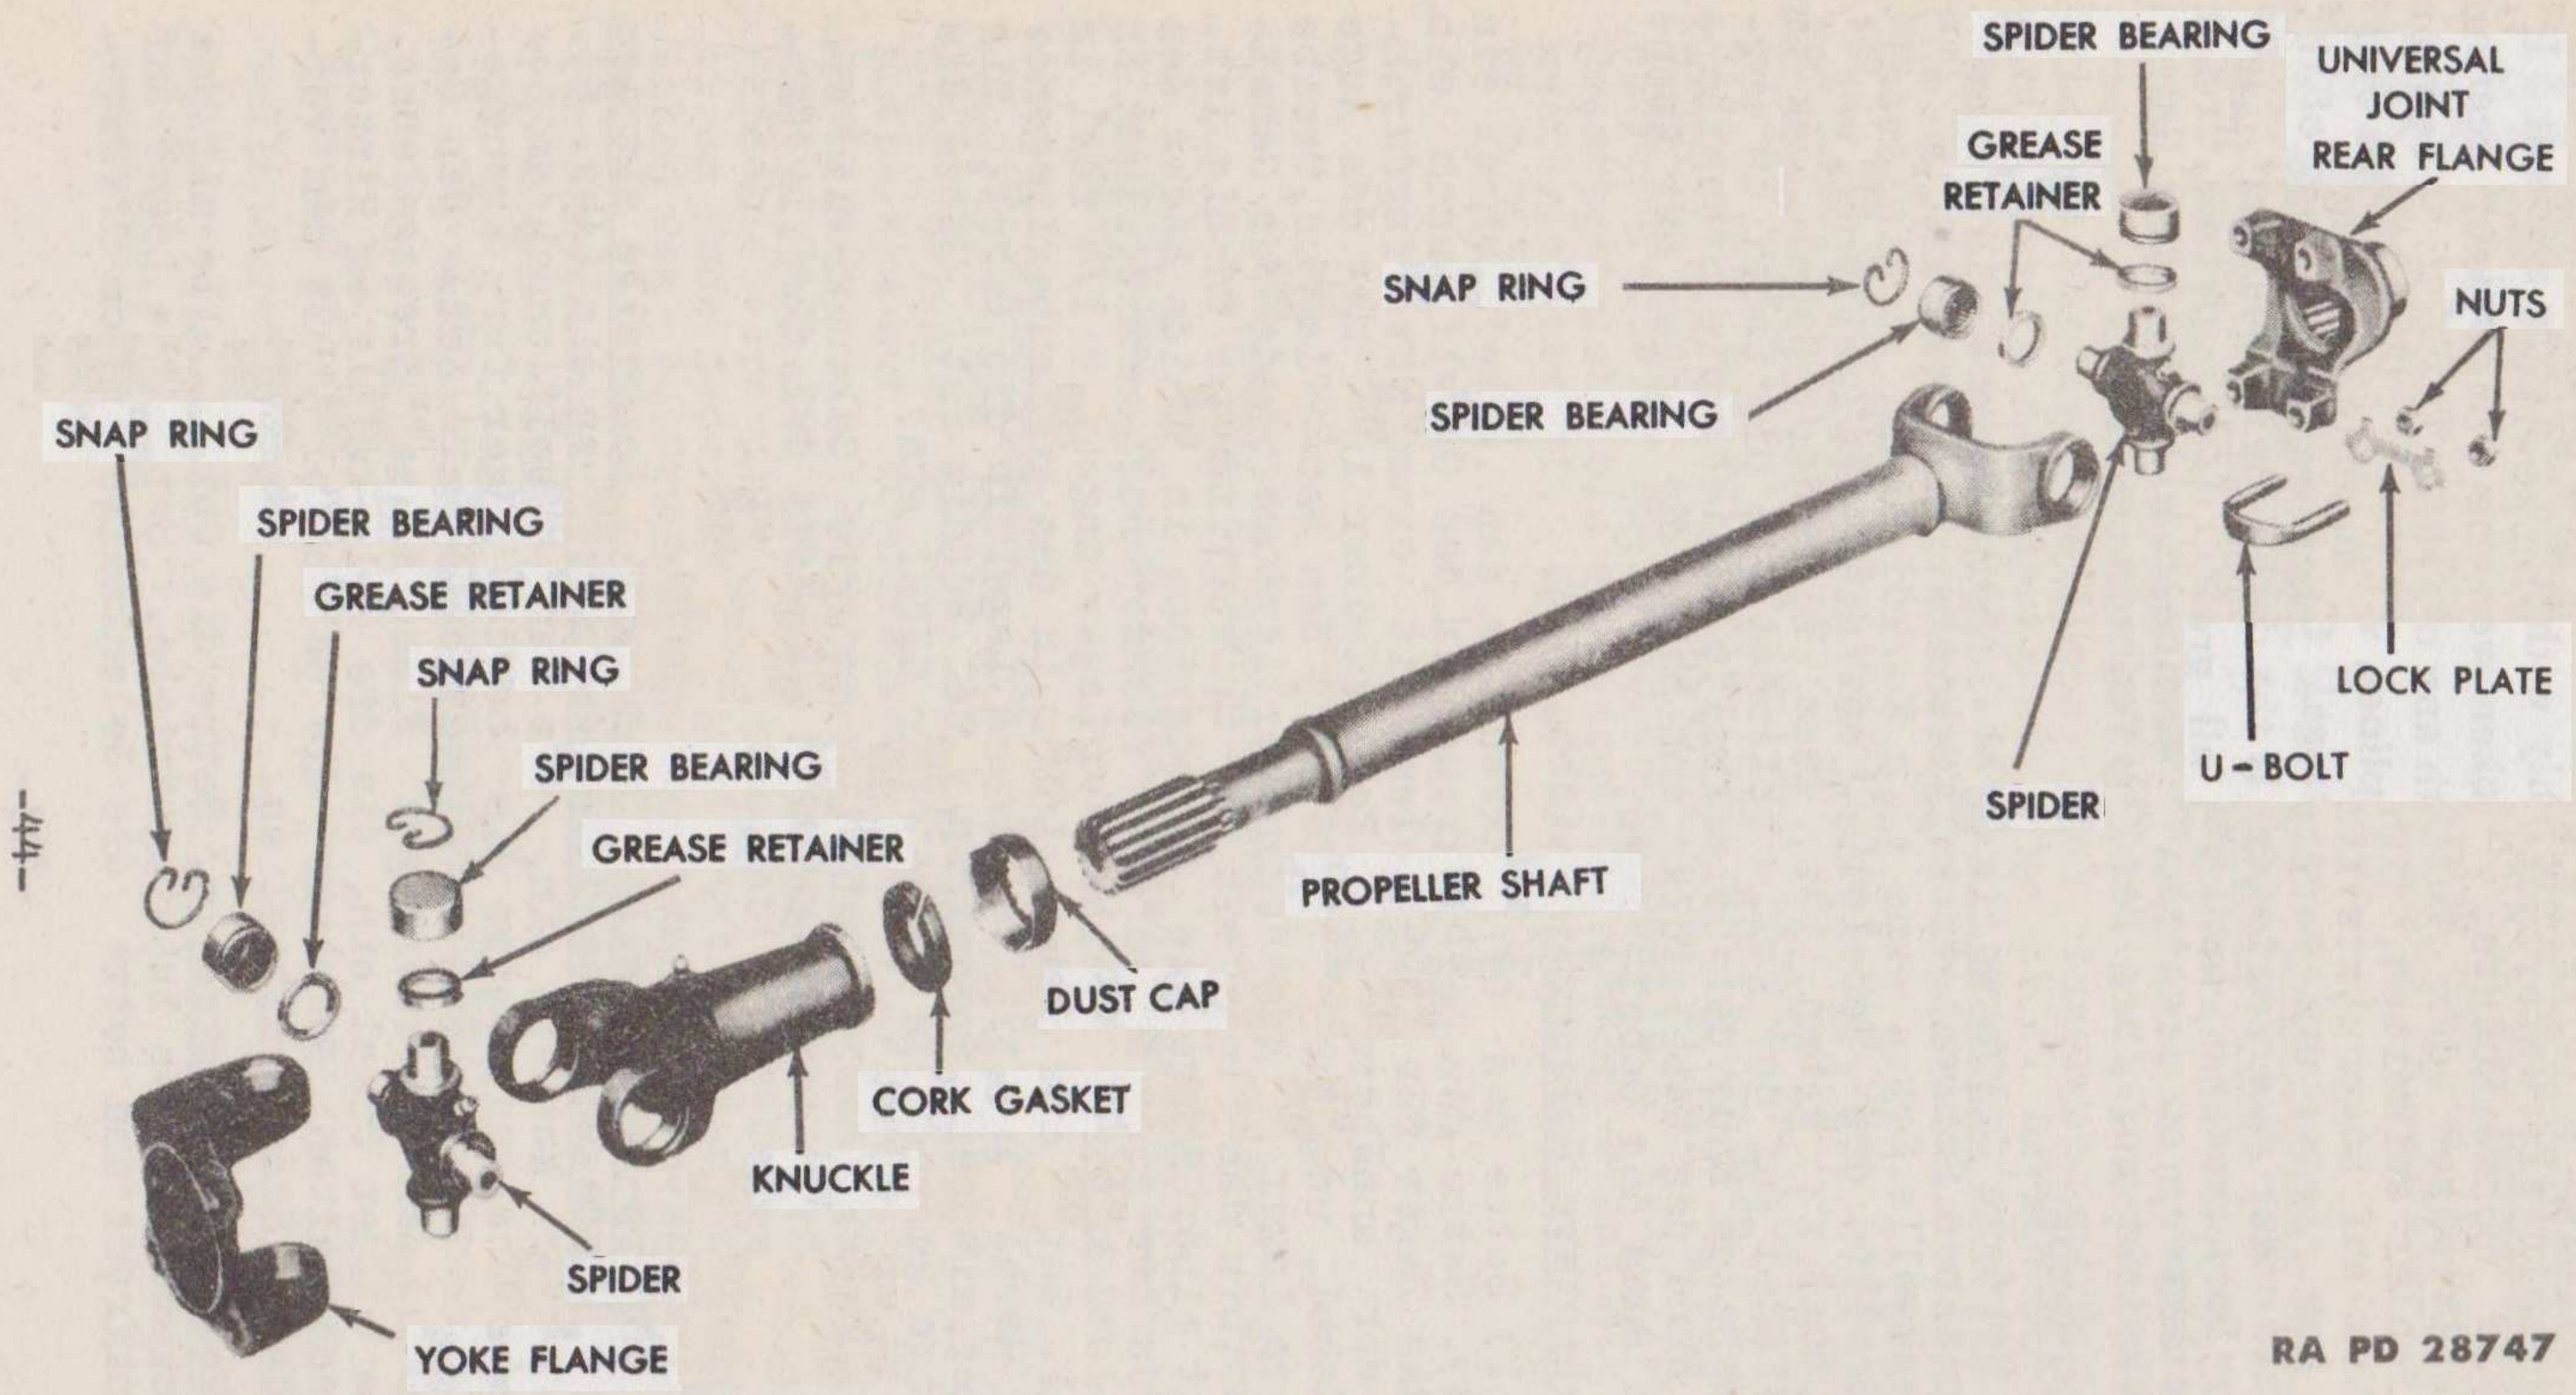

Figure 34 — Rear Propeller Shaft — Exploded View
b. **Rear Propeller Shaft (fig. 34).** The rear propeller shaft is similar to the front propeller shaft with the exception of the solid yoke type connection at the transfer case. Remove the nuts from the U-bolts at the rear axle end. Remove the U-bolts. Slide the universal joint out of the universal joint rear flange. Care must be taken to hold the bearing races on the universal joint to avoid losing the rollers. Remove the four nuts that secure the universal joint flange yoke to the rear flange at the transfer case. Remove the rear propeller shaft from the vehicle.
b. **Rear Propeller Shaft** (fig. 34).
(1) **INSTALL SPIDER IN YOKE FLANGE** (fig. 34). Insert the spider into the yoke flange. Tap the spider bearing approximately $\frac{1}{4}$ inch into the yoke flange, using a brass drift approximately $\frac{1}{32}$ inch smaller than the hole in the yoke. Tap the other bearing into the opposite end of the yoke flange until the bearing is in line with the snap ring grooves. With a pair of pliers, install the snap rings on both ends of the yoke flange. Insert the flange assembly in the knuckle. Tap the bearing approximately $\frac{1}{4}$ inch into the yoke. Place the other bearing into the opposite end of the yoke, and tap this bearing into the yoke until the bearing is in line with the snap ring groove. Install the snap rings on both ends of the yoke.
(2) **INSTALL KNUCKLE AND SPIDERS** (fig. 34). Install the knuckle on the propeller shaft (subpar. a (1), above).